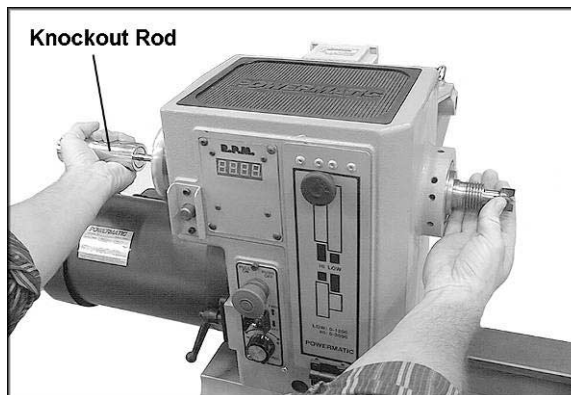

Figure 20
3. To *remove* a spur center or live center, first remove the workpiece from the Lathe. Insert the knockout rod (Figure 20) through the hole in the handwheel and firmly tap the tapered end of the spur center. The sliding collar on the knockout rod helps give the necessary impact without having to use a mallet against the end of the rod.